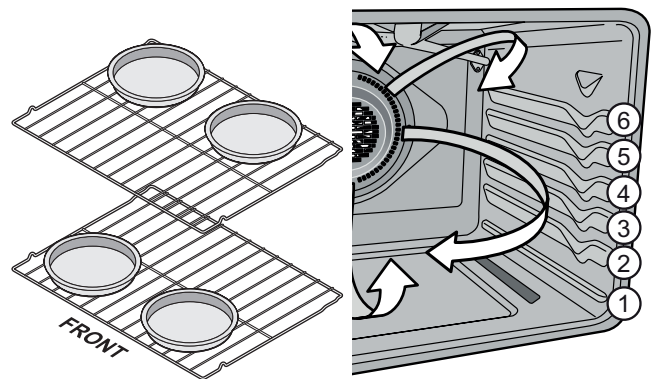

Figure 12: Rack and pan positions
- When using 2 oven racks place racks in positions 3 and 5 and position cookware as shown in Figure 12.